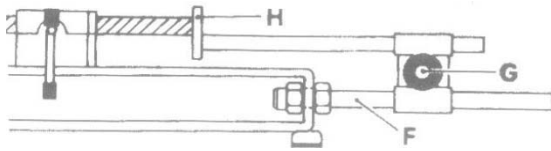

Fig. 3
4. Adjusting the stop bar (fig.3)